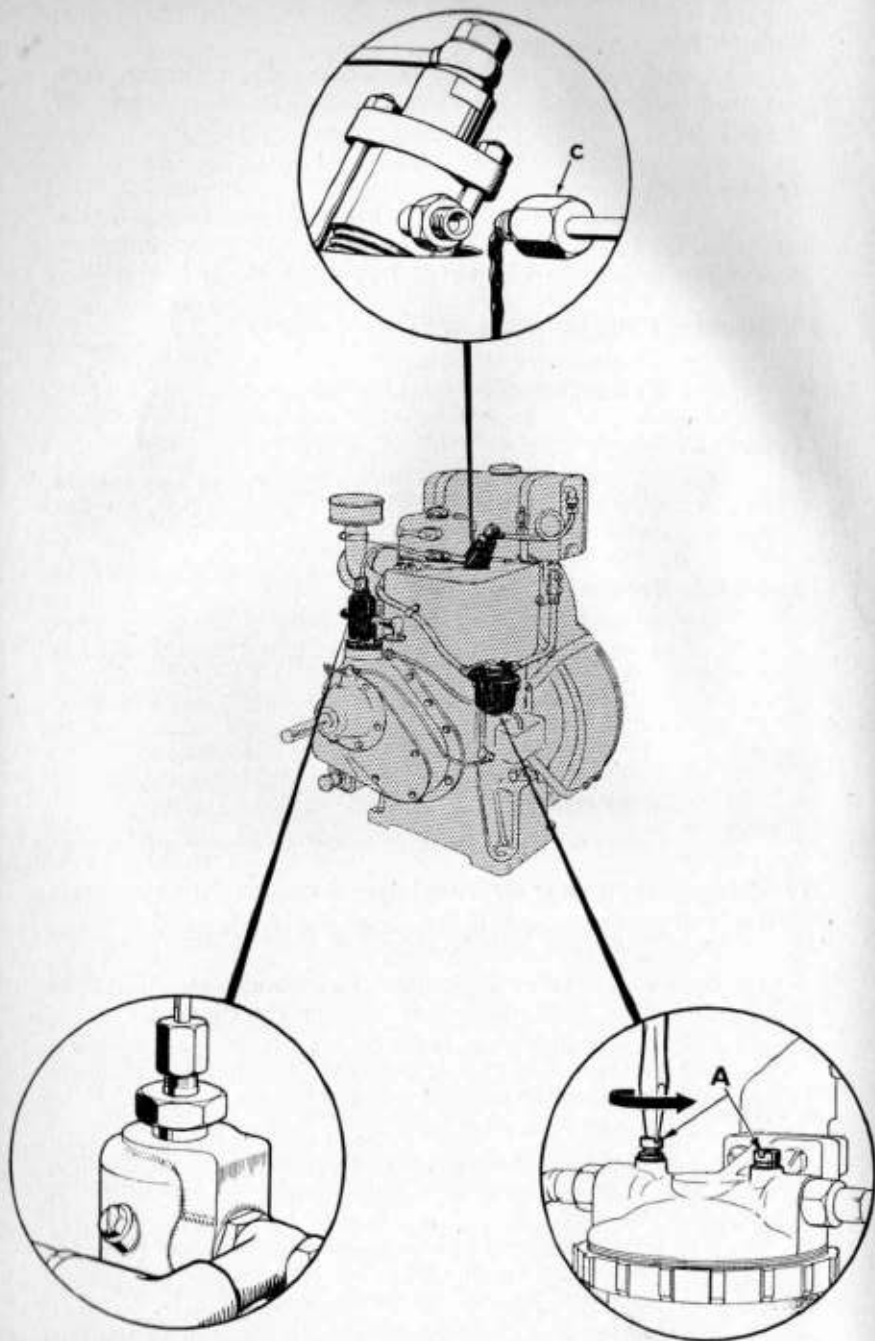

Fig. 1
- (e) Open the Stop Cock between the Fuel Tank and the Fuel Filter with a screwdriver, and "bleed" the fuel system as follows. (Fig. 1).
- (i) Loosen the Vent Screws (A) on top of the Fuel Filter and keep loose, until clean fuel without any air bubbles leaks out. Tighten the Screws again.
- (ii) Loosen the Vent Screw (B) on the top of the Fuel Pump. Slowly crank the Engine over a few times,